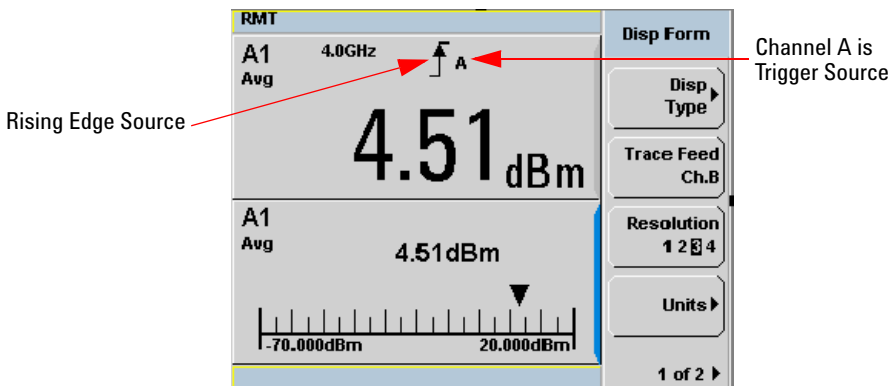
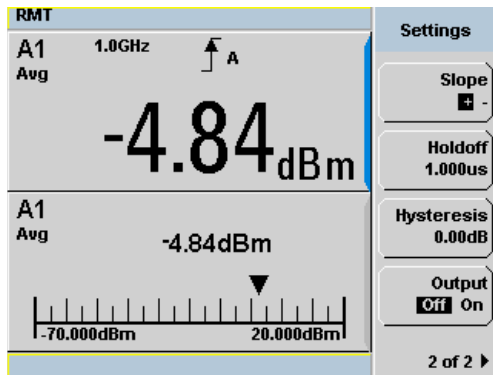

Figure 2-52 Trigger Setting Menu 1 of 2
Figure 2-55 Trigger setting menu 2 of 2
- 3 Press **Settings** to configure the remaining trigger parameters. The trigger **Settings** menu have two pages. **Figure 2-52** shows page one and **Figure 2-55** shows page two.